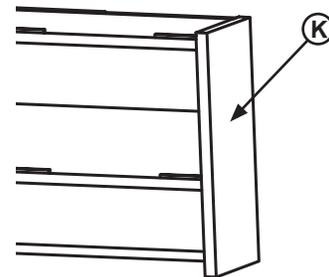

Figure 13
- a. Weld on roller track stops (K, Figure 13) and proceed to step 8.